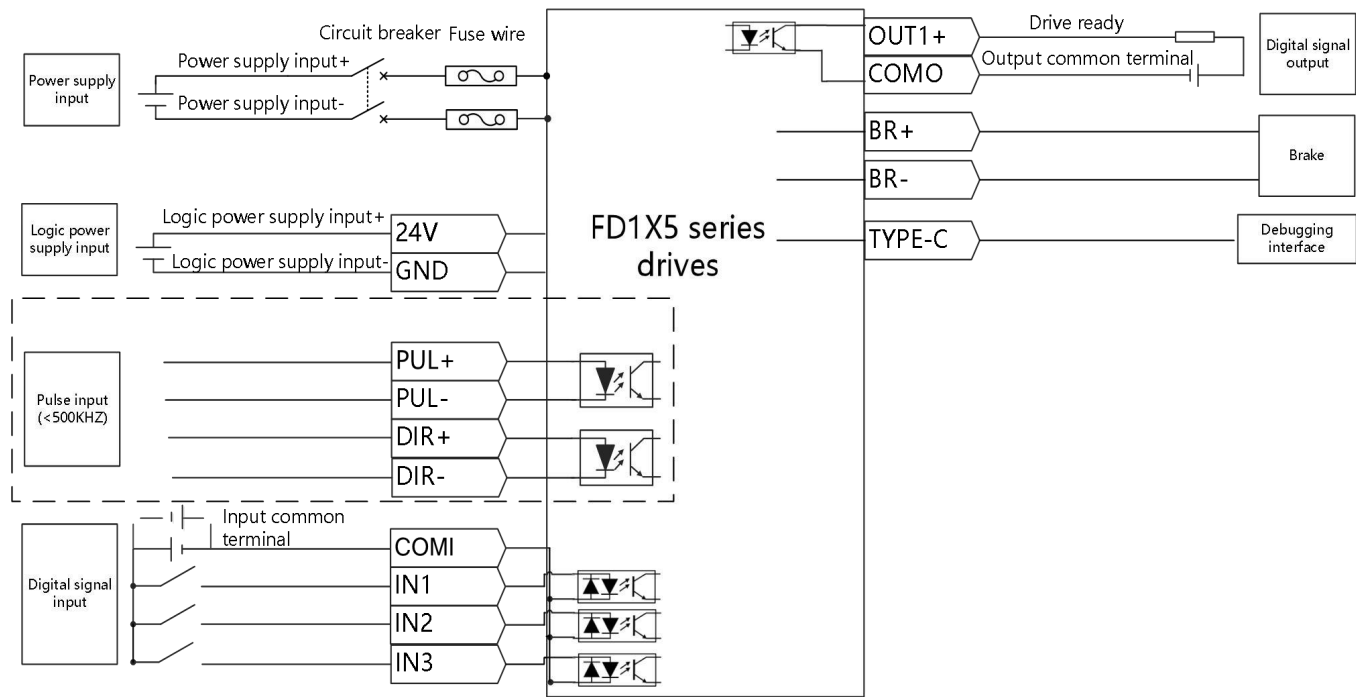

Figure 3-10 FD1X5 series drivers electrical wiring diagram
- Figure 3-10 shows the wiring of the FD1X5 series driver with the default IO function. More IO functions can be defined by the upper computer software.